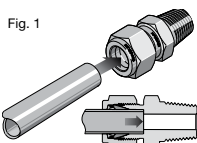

Fig. 1
1. Fully insert the tube into the fitting and against the shoulder; rotate the nut finger-tight. *Fig. 1.*